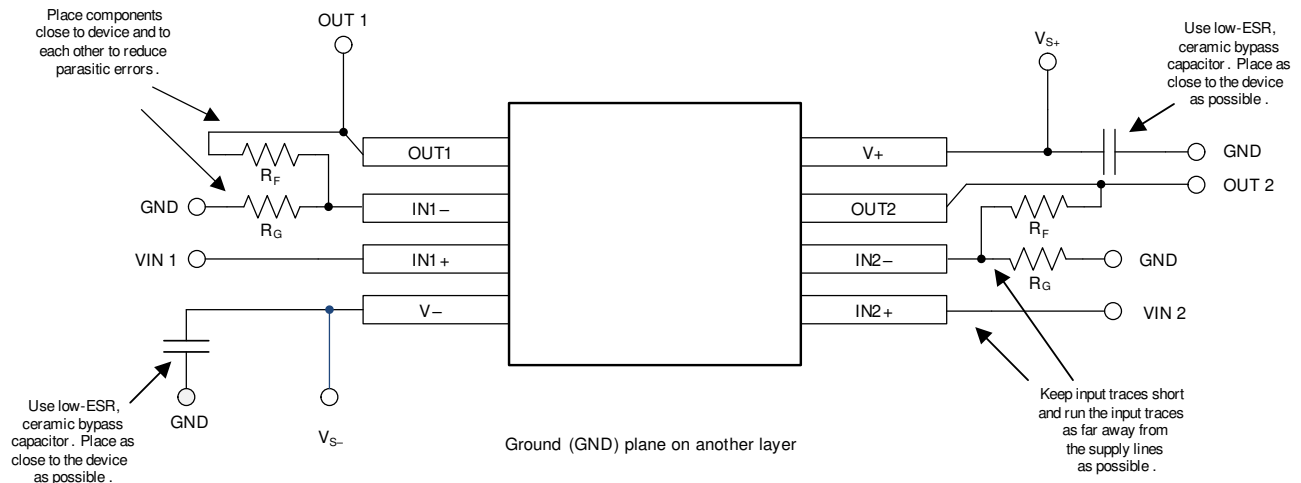

FIG 42. Layout Example
- Place the external components as close to the device as possible. As illustrated in Figure 42, keeping R_F and R_G close to the inverting input minimizes parasitic capacitance on the inverting input.